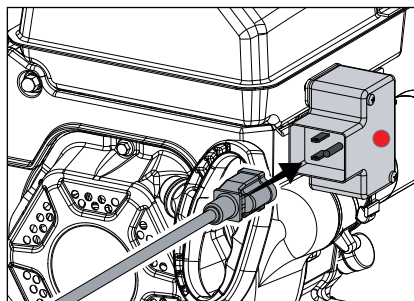

Figure 13
5. Alternatively, for electric start, plug in the supplied electrical cord into the starter. Press the electric start button and make sure that the main supply voltage is 120 V~ 60 Hz (Fig. 13).